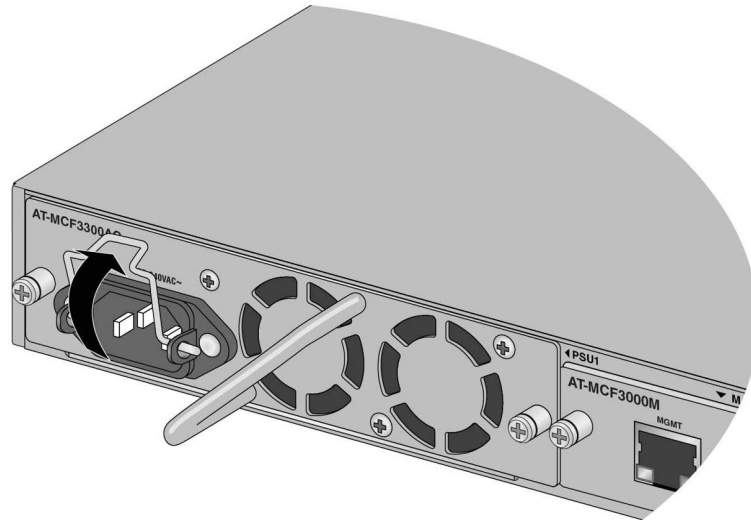

Figure 55. Raising the Retaining Clip on the MCF3300AC Power Supply
1. Raise the retaining clip to the upright position on the MCF3300AC Power Supply. Refer to Figure 55.